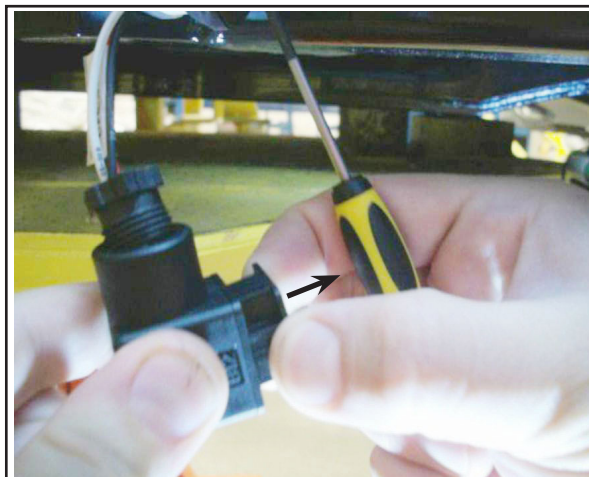

Figure 3 - Removing the Plug
- 1.3. Gently pull on the plug, ensuring that the cable moves freely. See Figure 3.